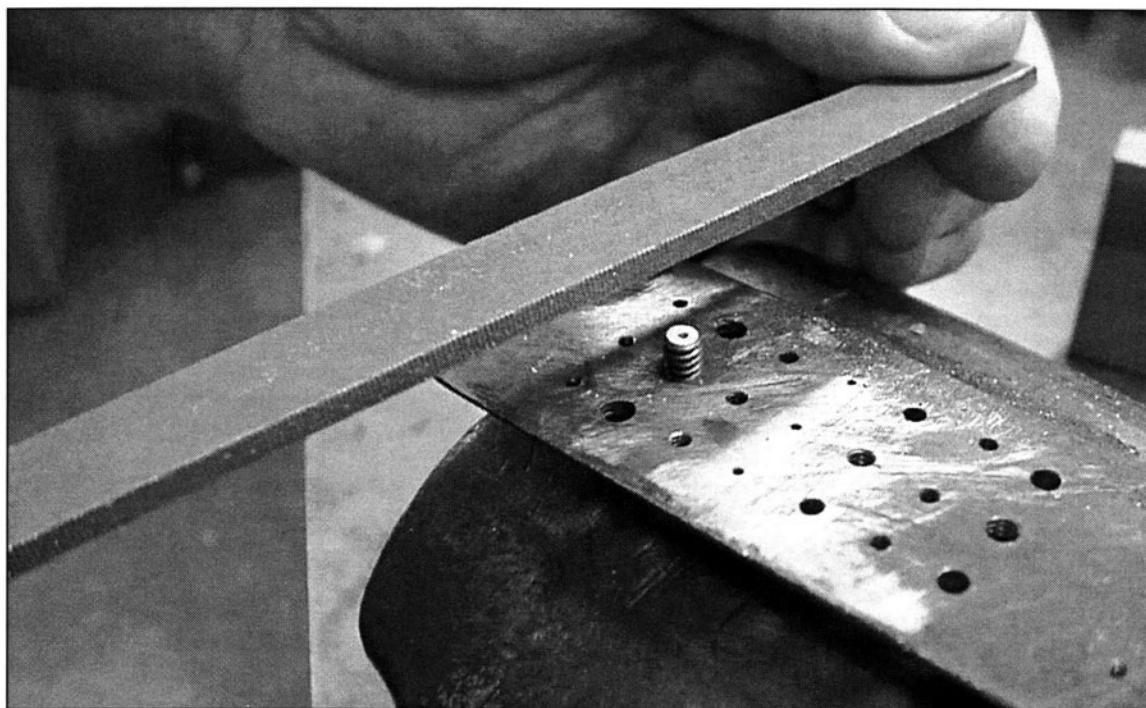

FIGURE 3-8 A screw plate is used to file a small screw to length. When the screw is removed, the threads are automatically cleaned up.
12. Use a screw plate to cut and file small screws to length. (See Fig. 3-8)